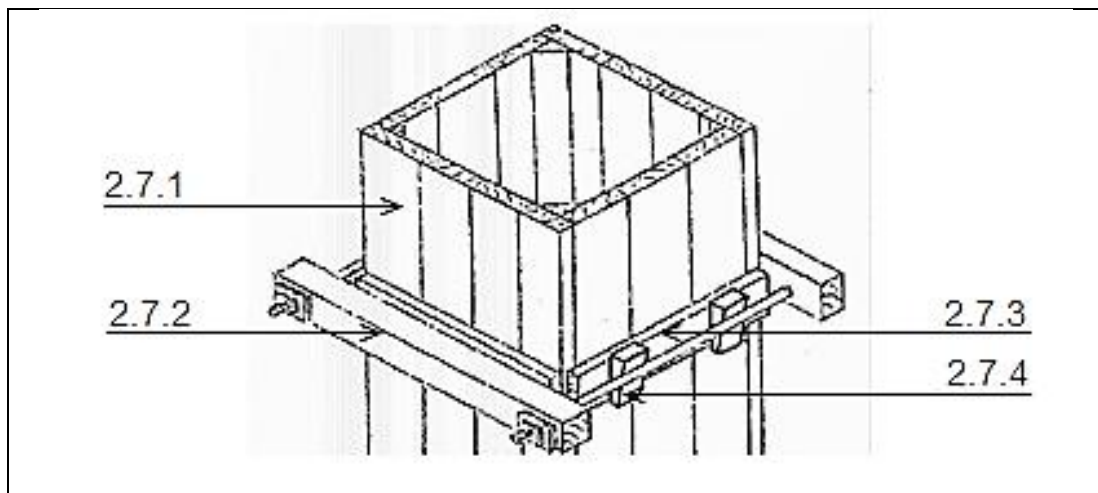

FIGURE 2.7
2.7 Identify the parts labelled 2.7.1 to 2.7.4 of the formwork in FIGURE 2.7.